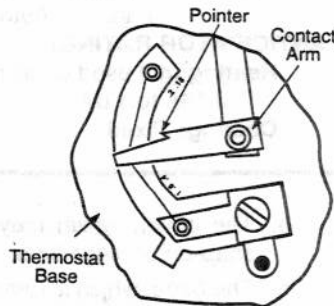

Figure 4. Heat Anticipator
4. **Set Anticipator (not used on all models):** The anticipator should be set to match the current rating stamped on your main heating control. The heat anticipator is adjustable from 0.18 to 1.0 Amps. Adjust the anticipator by rotating the contact arm clockwise to reduce the amperage setting (see fig. 4). The amperage where the anticipator is set is indicated by the numbers on the base, which the pointer on the upper part of the arm points to. Do not adjust the anticipator if you are not sure of the rating of your main heating control.